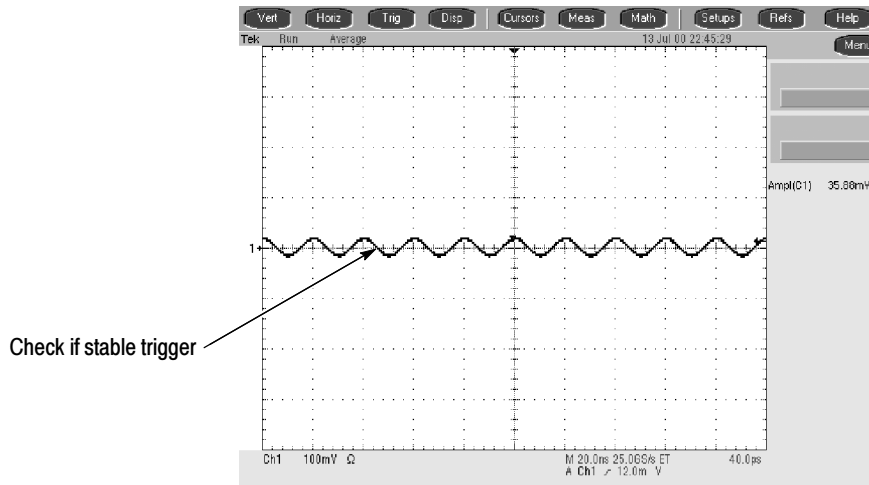

Figure 4-27: Measurement of trigger sensitivity - 50 MHz results shown
- CHECK that a stable trigger is obtained for the test waveform for both the positive and negative slopes of the waveform. Use the **TRIGGER LEVEL** knob to stabilize the Main trigger. Touch **B Trig Level** and use the keypad or the multipurpose knob/FINE button to stabilize the Delayed trigger. Touch one of the Slope buttons to switch between trigger slopes. See Figure 4-27 on page 4-68.